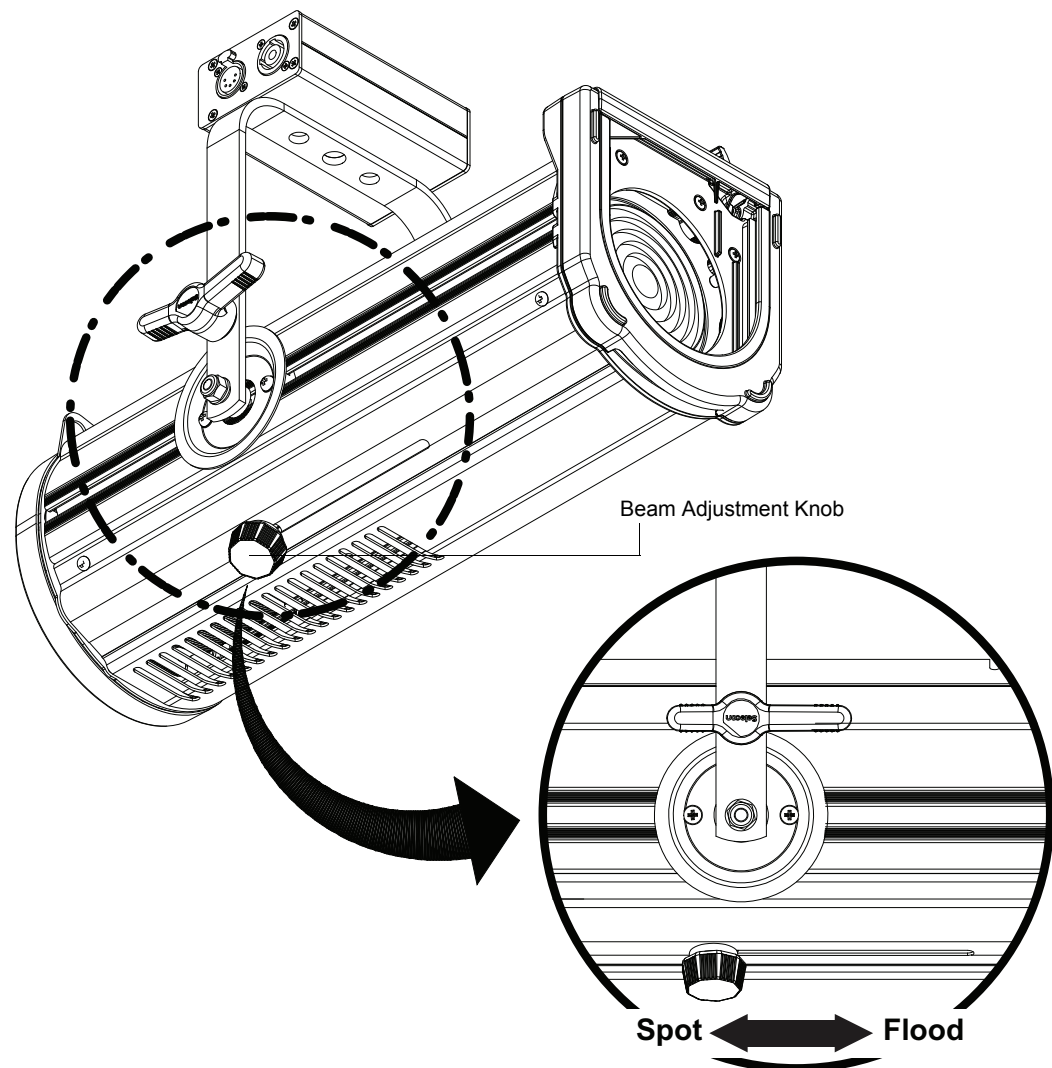

Figure 7: Zoom and Focus Adjustment Knobs
- Step 1. As shown in **Figure 7**, loosen Beam Adjustment Knob